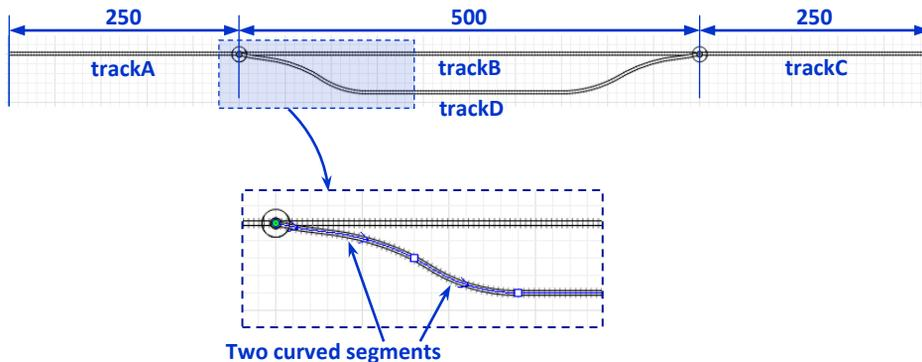

Figure 9.17 Drawing a very simple rail yard
3. Draw the branch railway track as shown in Figure 9.17. It consists of five segments: two curved segments followed by a linear one and two more curved segments. Double-click the **Railway Track** item in the **Rail Library** palette. Click the existing railway track at X=250 to start drawing a new track.
5. Draw the other track segments as shown in Figure 9.17. Finally double-click the main track at X=750 to finish drawing. The connected point should be highlighted in turquoise and the switch circle should appear, otherwise you will have to drag the end point on the main track to have a proper connection.
6. The original straight track is now divided into three separate railway tracks. Name them **trackA**, **trackB** and **trackC** as shown in the Figure 9.17. Name the branch track **trackD**.